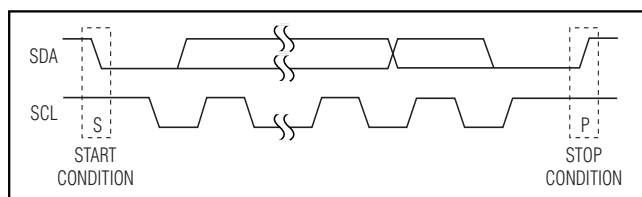

Figure 3. Start and Stop Conditions
Each transmission consists of a START condition (Figure 3) sent by a master, followed by the MAX6965 7-bit slave address plus R/W bit, a register address byte, one or more data bytes, and finally a STOP condition (Figure 3).
Both SCL and SDA remain high when the interface is not busy. A master signals the beginning of a transmission with a START (S) condition by transitioning SDA from high to low while SCL is high. When the master has finished communicating with the slave, it issues a STOP (P) condition by transitioning SDA from low to high while SCL is high. The bus is then free for another transmission (Figure 3).